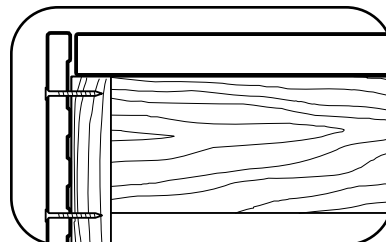

Fig. 47
- Fasten 2" from the top and bottom every 3' as shown, using 2-1/2" stainless steel or galvanized deck screws, leaving a 1/8" gap between TimberTech Fascia laid end to end and between house wall and Fascia (Fig. 47).